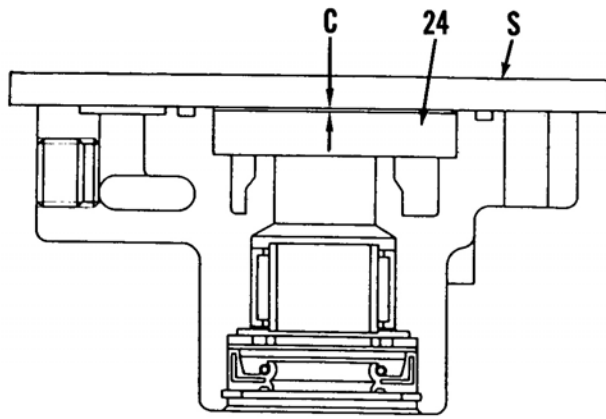

Fig. 63—View showing procedure for measuring side clearance (C) between trochoid rotor (24) and straightedge (S). Refer to text.
Recommended side clearance (C—Fig. 63) between trochoid rotor (24) and straightedge (S) measured as shown should be 0.030-0.045 mm (0.0012-0.0018 inch).